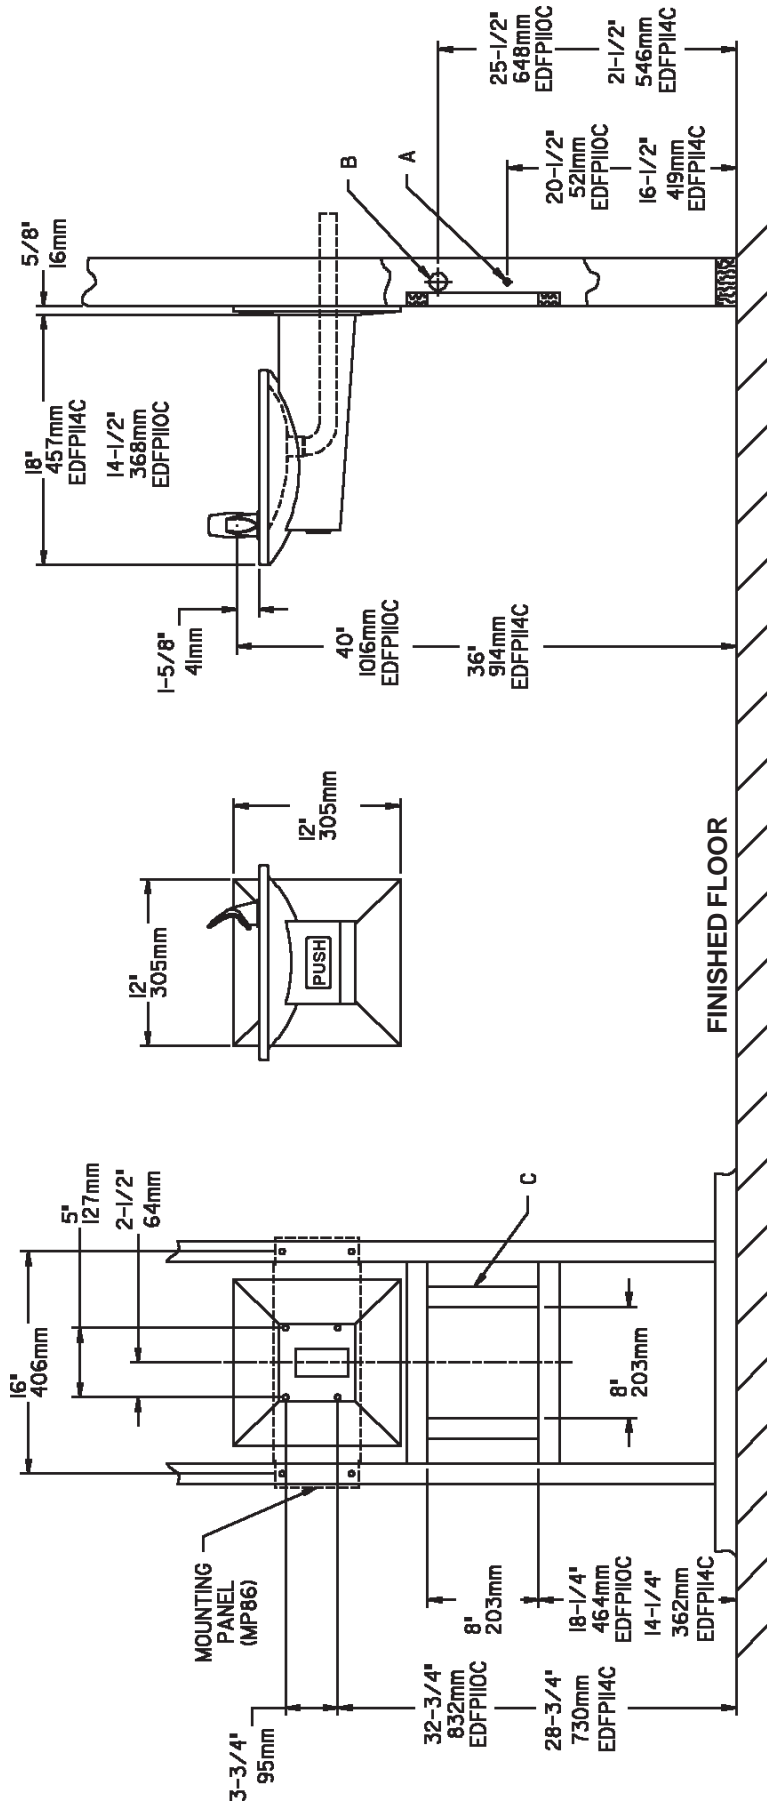

FIG. 4
- Wall** should already be framed for the fountain using the positioning dimensions shown in Figures 4 or 5. Shown dimensions pertain to installation location (framing must support up to 150 lbs. weight). These dimensions are required for compliance with ANSI Standard A117.0.
- Install** rough-in plumbing as shown in Figures 4 or 5. Run the supply water inlet line through the back panel. Install a service stop (not provided). Turn on supply water and flush thoroughly.
- Remove** bottom access panel from fountain basin and save the screws. Install the fountain to the back panel and wall using (4) 5/16" nuts to attach to the mounting bracket rods.